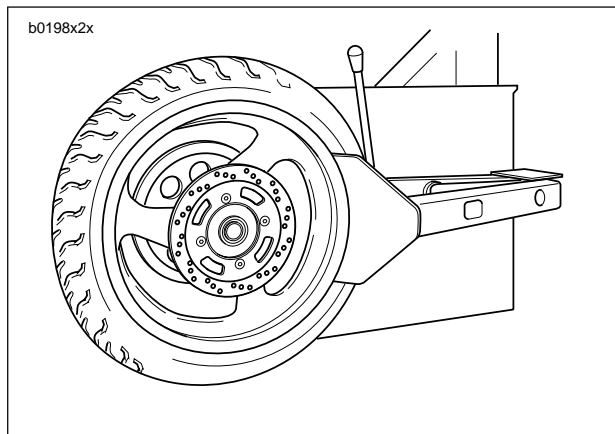

Figure 2-30. Loosening Beads from Rim Flange
3. See Figure 2-30. Loosen both tire beads from rim flange.